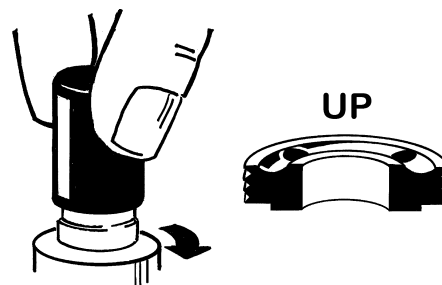

FIGURE 4-6 Replacing Membrane Support
NOTE: The membrane support has a grooved smooth side and a side that is raised in the center. Make sure the grooved smooth side faces out as shown in Figure 4-6 when installed.
1. Use the metal membrane support tool to screw on the membrane support until it is “finger tight.” Make sure the grooved smooth side faces out as shown in Figure 4-6 when installed.